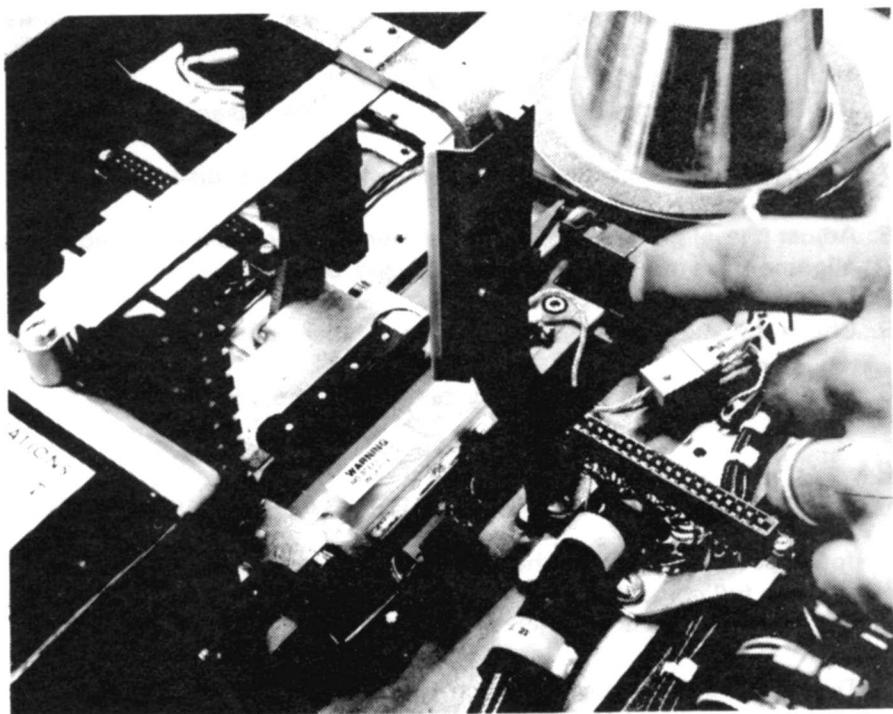

FIGURE 5-18. CARRIAGE LOAD FORCE ADJUSTMENT
4. Insert the Carriage Torque Wrench under the carriage load bearing axle (see Figure 5-18) and check the torque required just to separate the bearing from the surface of the way. This torque must be 17 ± 1 inches-lb. If this torque is not obtained, tighten the locking nut (Figure 5-18) while ensuring that the bearing is against the way. Continue tightening the locking nut until the load of the bearing on the way is from 16 to 18 inches-lb.